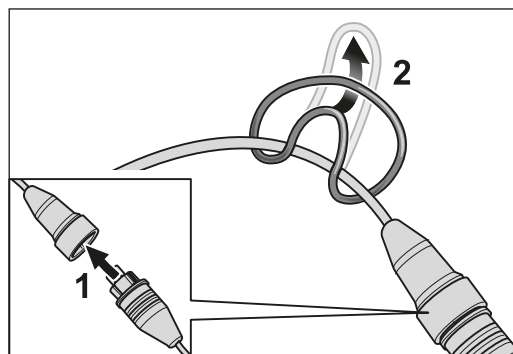

Fig. 15 Insert the plug of the motor cable in the coupler of the extension cable (1). Fasten the strain relief ring on the extension cable (2).
- 2 Insert the plug of the motor cable in the coupler of the extension cable (fig. 15, 1).
- 3 Fasten the strain relief ring on the extension cable (fig. 15, 2).